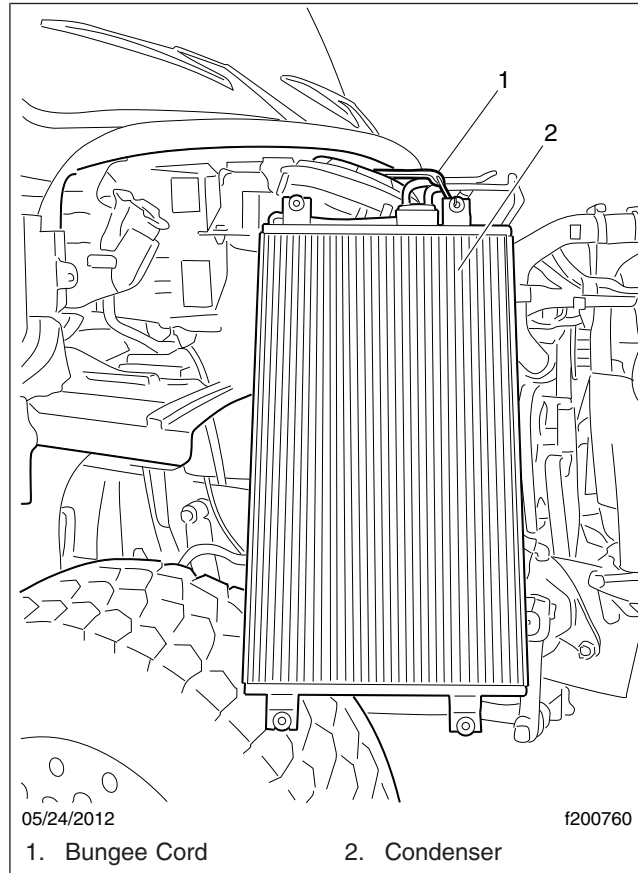

Fig. 4, Securing the A/C Condenser
- 12.3 Carefully move the condenser around and set it on right front tire. Secure it as needed. See **Fig. 4**.